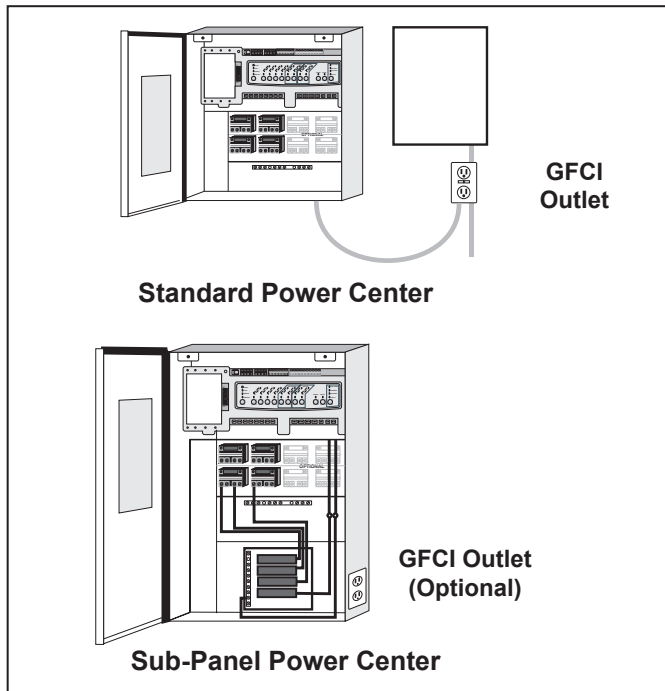

Figure 4. GFCI Installation for High Voltage Underwater Lighting
1. For a standard power center, install a GFCI receptacle next to the breaker panel. For a sub-panel power center install a GFCI receptacle in the power center (use the knockout provided on the right side of the sub-panel power center). See Figure 4.